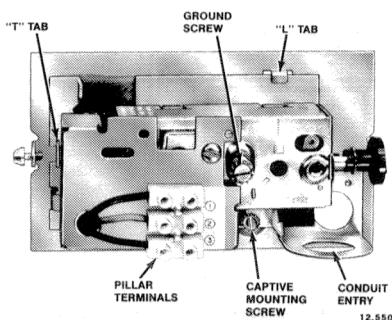

Fig. 2. Cover removed.
2. Remove the backplate from the control assembly by loosening the captive mounting screw and sliding the control down and to the right (See Figures 2 and 3).
4. Attach control to backplate by slipping it under tabs and tightening the captive mounting screw (See Figure 2).
Insert wiring through hole in back plate or through conduit entry (see Figure 2). If conduit entry is not used, hole must be closed with the rubber plug provided. If the hole in the mounting plate is exposed to an opening in the wall, plug the opening to prevent drafts from affecting the humidistat operation. Connect wires as shown in Figure 5.